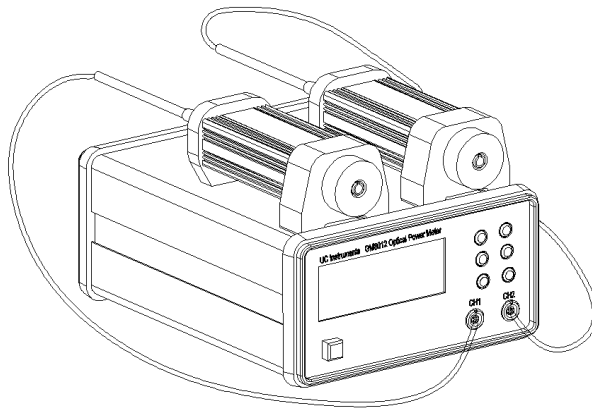

Figure 20- GM8012 Mainframe with two GM83001D optical heads
- 1 Setup the test equipment as shown in Figure 20.